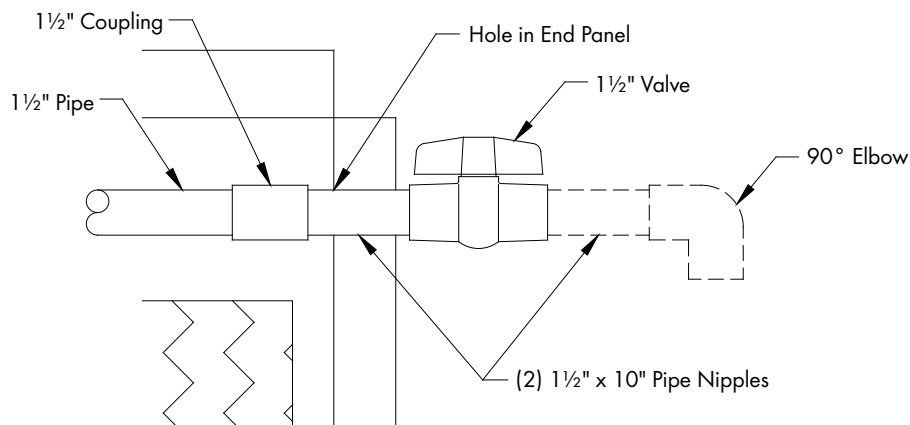

Figure 23
If Flush-Out Kit (EC1507) was purchased, refer to page 16, Step 14A for instructions on drilling hole in End Panel. Remove the TEK Screw and Pipe Cap from the end of Distribution Pipe. Assemble Flush-Out Kit piping as shown in Figure 23. Installation of the 90° elbow and (1) 1½" x 10" pipe is optional, depending on the desired direction for water flow.